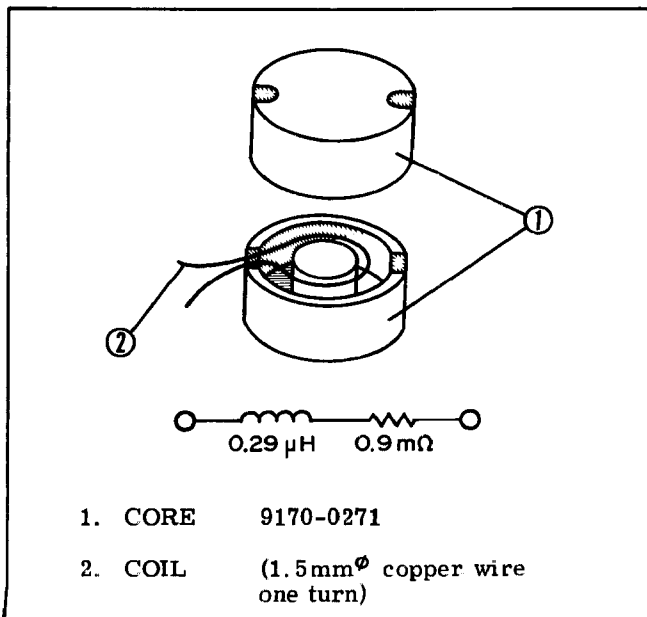

Figure 5-2. $(0.9m\Omega + j1.8m\Omega)$ Impedance
- a. Set the Model 4328A range to 1mΩ and measure an impedance of (R + jωL) as shown in Figure 5-2, where R should be calibrated by DC bridge and the reactance value twice that of R.